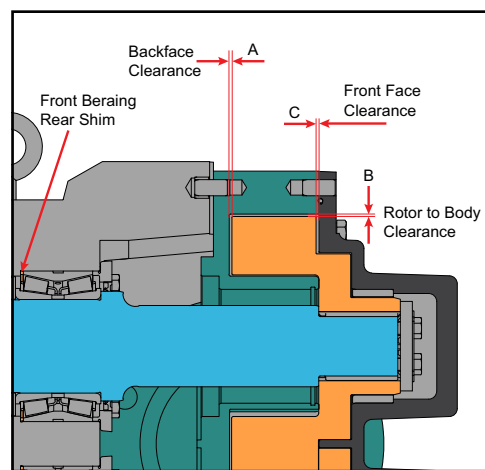

Figure 87 - Clearance Measurements
2. With feeler gauges, measure the rotor backface clearance (Figure 87, item A), through the port or from the front.
3. Measure the rotor front face clearance (Figure 87, item C).
4. Measure the rotor to body clearance (Figure 87, item B).